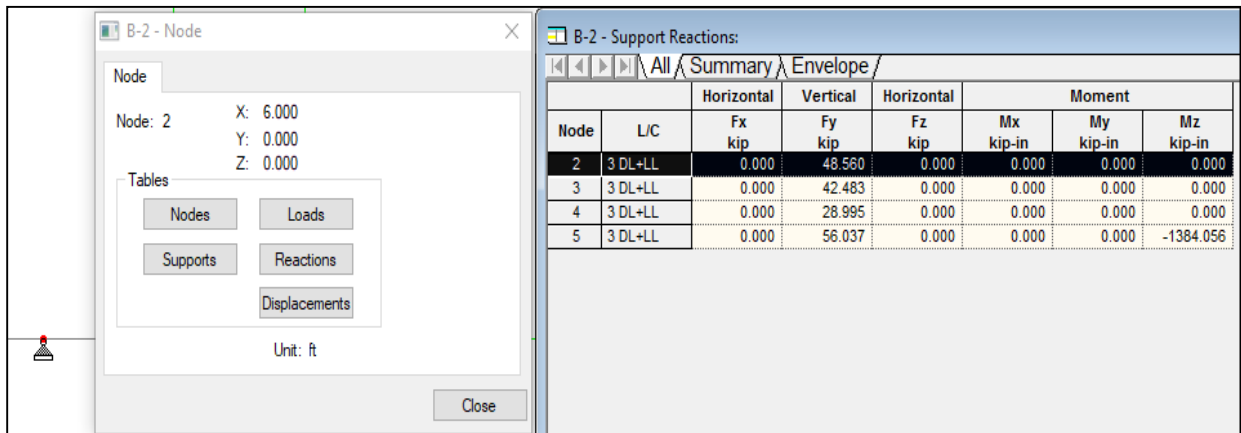

Fig: 3.14
- For Support Reactions use node cursor and double click on the support point → Reactions. Then get the Table for all Support Reactions. (Fig: 3.14)